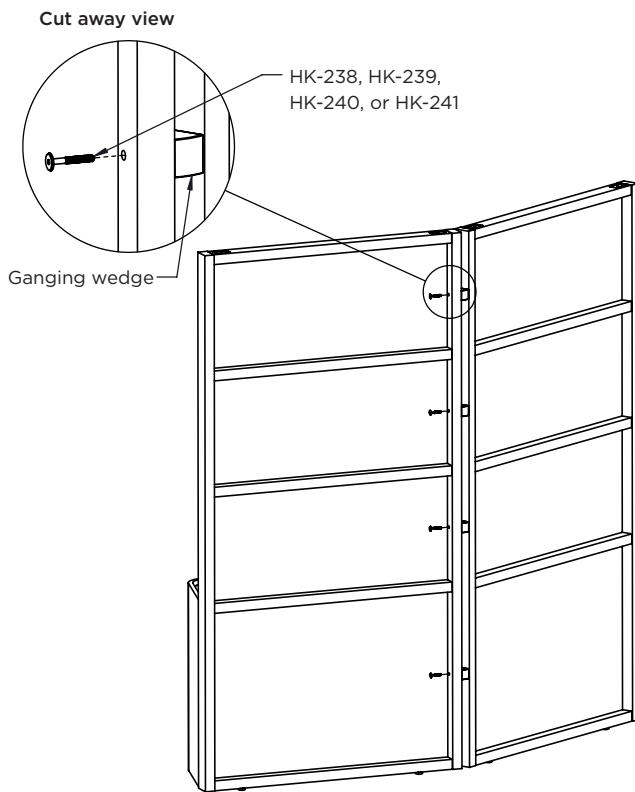
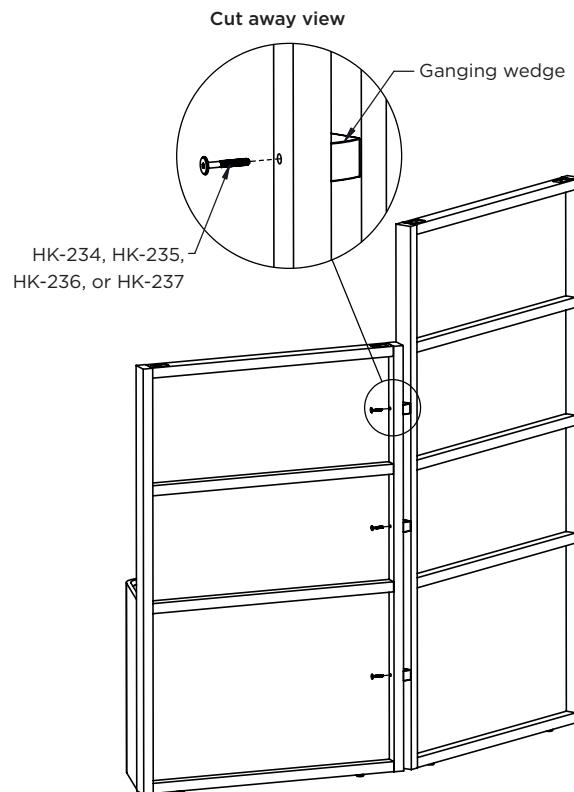

Figure 5F
Figure 5G
**Note:** Reference **Figure 5F** for 90" h to 90" h planters and **Figure 5G** for 90" h to 72" h planters
**Note:** Reference **Figure 5F** for 90" h to 90" h planters, and **Figure 5G** for 90" h to 72" h planters